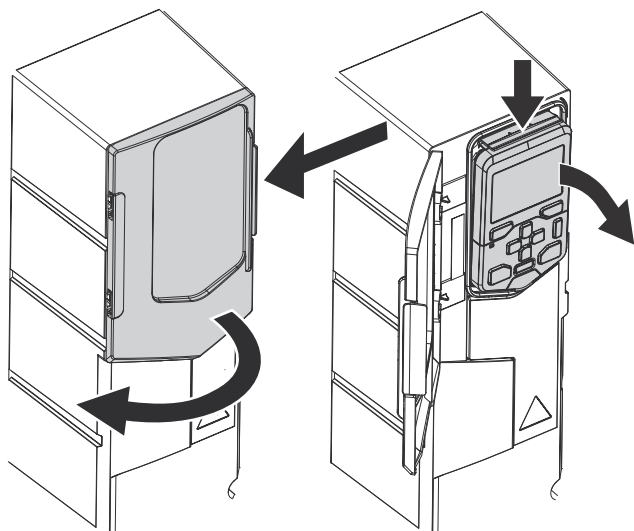

Fig. 44 — Open Keypad Cover and Remove Keypad
To replace the internal enclosure fan for frame sizes R1 and R2 perform the following (see Fig. 44, 45 and 46):
2. Remove the remote keypad, if installed. See Fig. 44.